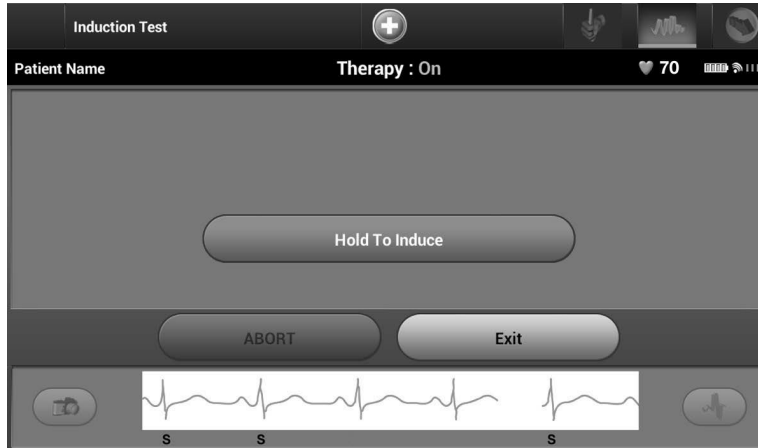

Figure 35: *Induction Test screen*
6. Select and hold the Hold To Induce button for the desired duration (Figure 35).